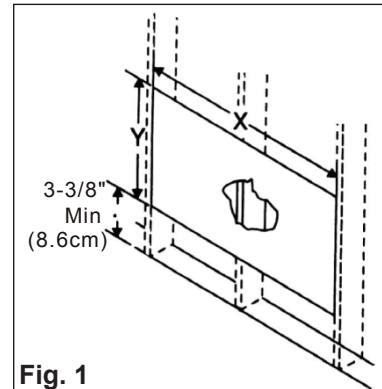

Fig. 1
3. Measure between inside edges of every other stud as shown in Fig. 1.
\*Carefully measure and cut an opening with the following dimensions depending on your model. (See Fig. 1 and 2.)